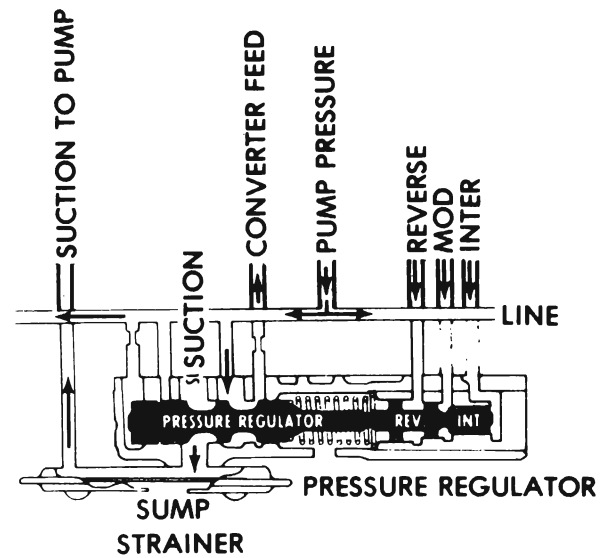

Figure 75-17 - Pressure Regulator Valve
**D. Pressure Regulator Valve (See Figure 75-17)**